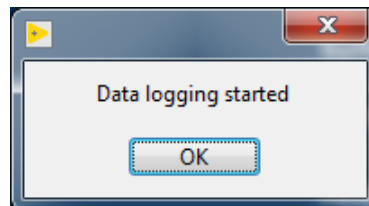

Figure 12. Window indicating Acuity LS device data logging started successfully.
6. Select "START DATA LOGGING" to begin Acuity LS device data collection and storage. A dialog box will appear indicating that the Acuity LS device data logging has started (Figure 12).